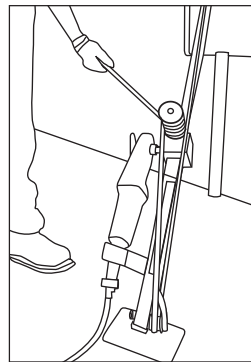

Fig 17
2. Unwrap rope from capstan and extend rope around Lower Pulley then back up to capstan (Fig 17).